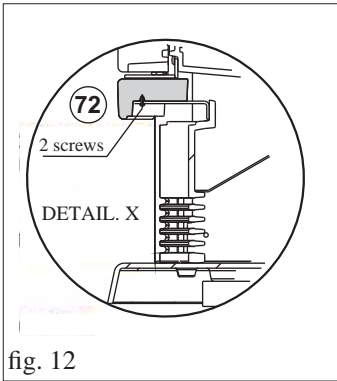

fig. 12
- Position the lower front panel (72) and use an Allen key to fasten it in place using the 2 supplied M6x12 screws as indicated in detail "X" (fig. 12).